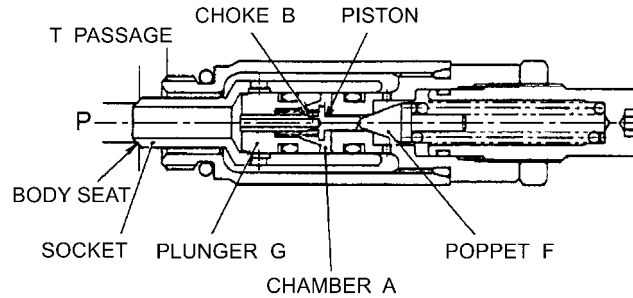

Fig. 24-54
- 4) If the pressure at port P falls below a set value of spring C, the poppet F is pressed against the seat by the action of spring C. As the result, the pressure of chamber A equals that of port P. This presses the plunger G against the socket seat and brings it back where it was. (Fig. 24-54)